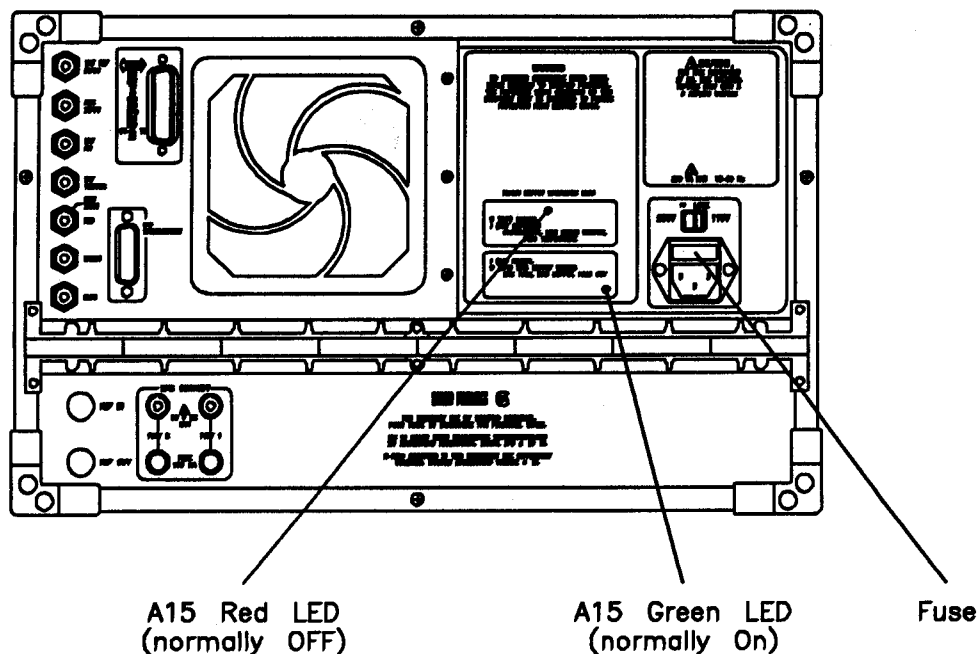

Figure 8–1. Location of A15 Power Supply Diagnostic LEDs
- If the red LED is OFF, refer to *Check A15W1 Voltages*. (See Figure 8–2).